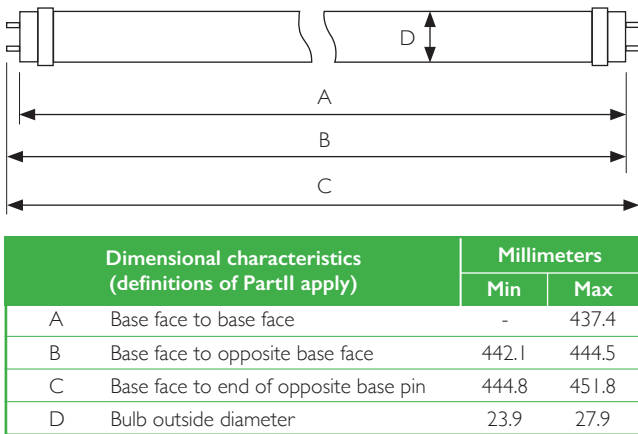

Fig. 2 Lamp Length and Diameter
- D. Mechanical data (figure 2)